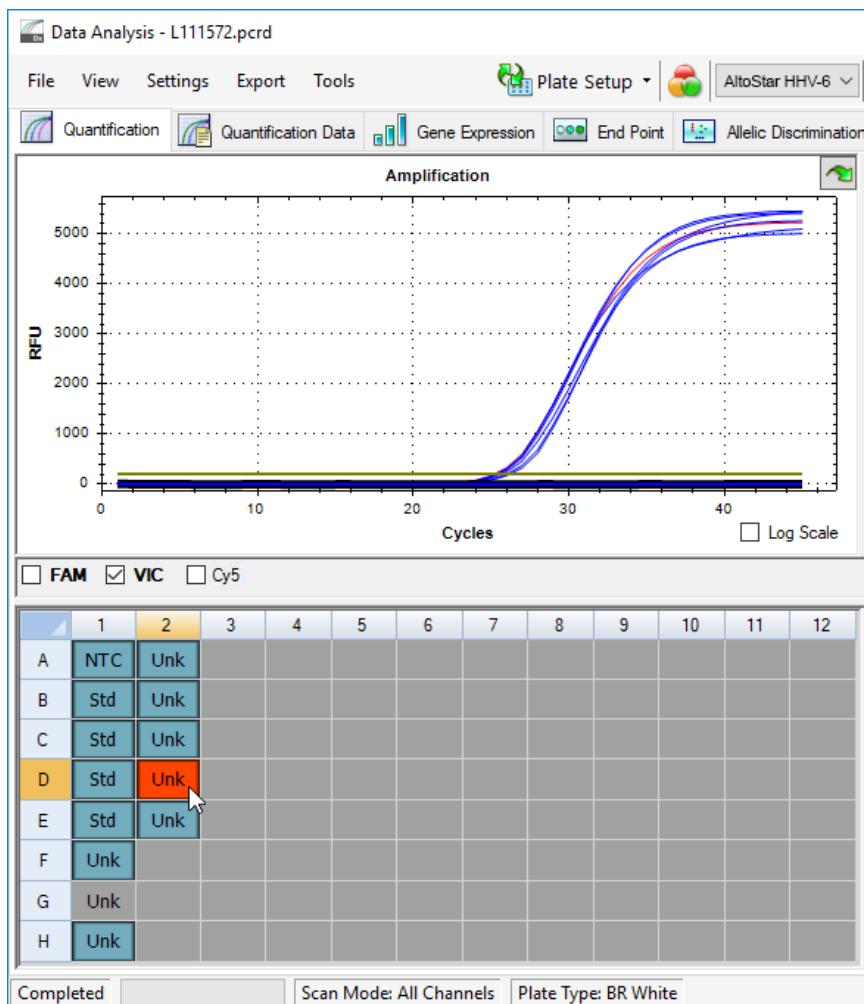

Figure 11: Data Analysis window: invalid well
- Click each well containing invalid data according to chapters 7.6.8.2 Validity of a diagnostic PCR run (qualitative) to 7.6.8.4 Validity of results for a sample with the right mouse button and select **Well...** → **Exclude from Analysis** (see figures 11 and 12).